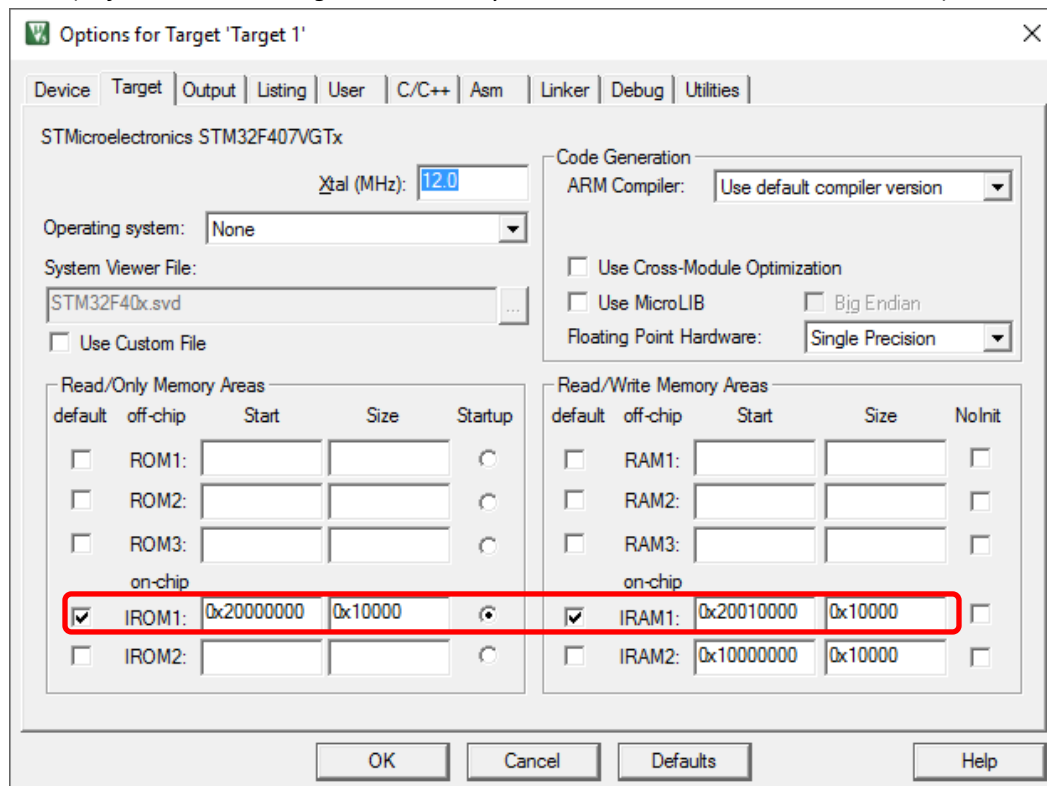

Figure 9. Linker instructed to program code (R/O memory) in the lower half of on-chip RAM and data (R/W memory) in the upper half of on-chip RAM.
- Select the **Target** tab (Figure 9) and change the Read/Only and Read/Write memory start addresses and sizes as indicated below, so that the linker will place program code in the lower half of the 128Kbyte on-chip RAM (instead of flash memory), and program data will be placed in the upper half of the RAM.